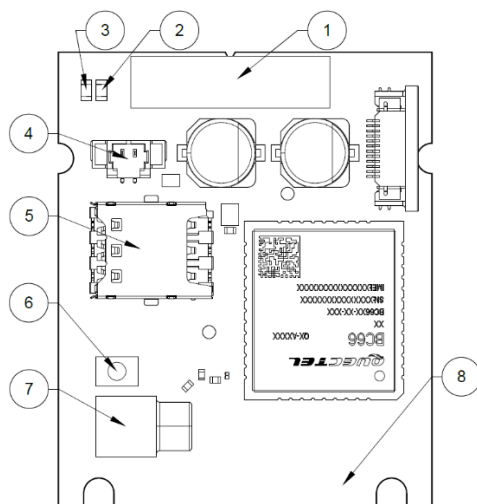
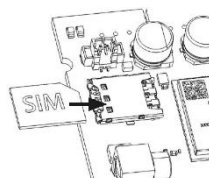

Figure 1: CMi6160 frontside
Figure 2: SIM-card installation
Before mounting the module in the meter, make sure that a SIM card is installed in the SIM card slot ((5) in Figure 1), as illustrated in Figure 2.